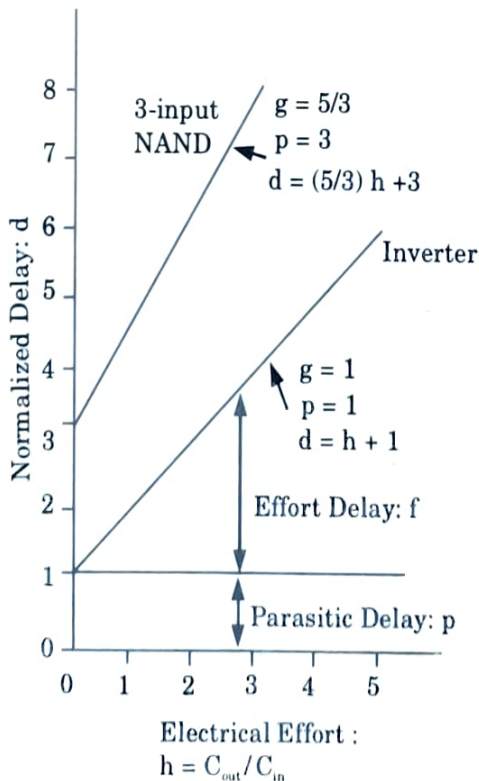

Fig. 2.12.1. Normalized delay vs fanout.
5. Fig. 2.12.1 plots normalized delay v/s electrical for an idealized inverter and 3-input NAND gate.